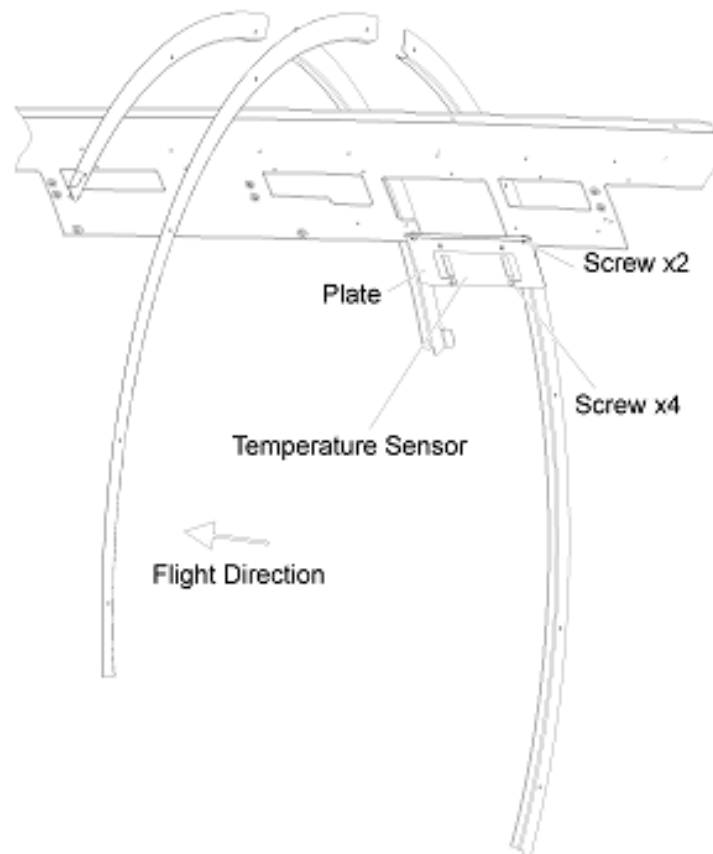

Fig. 229 - Temperature Sensor Support (Ferry Flight Configuration) - Removal
51. Temperature Sensor Support (Ferry Flight Configuration) - Removal(Ref. to Fig. 229)